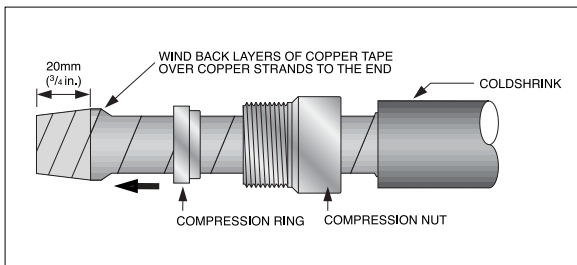

Figure 6: The termination coupling is fitted to the downconductor ready for the main coupling body to be fitted.
16. Rewrap the outer double layer of copper tape into place over the copper strands. Push the compression ring back up over the wrapped copper strands and up against the cone (see Figure 6 on page 10).